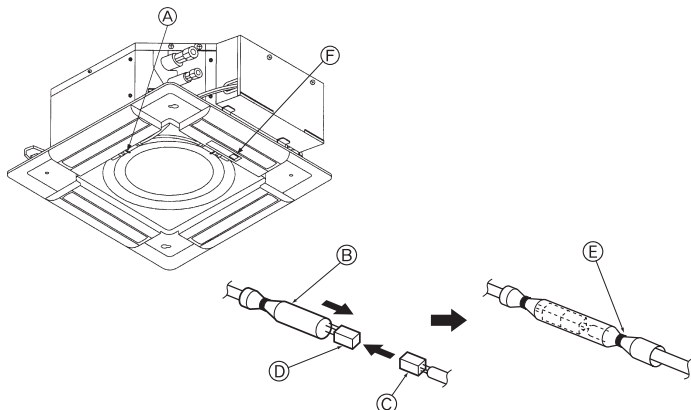

Fig. 5-8
5.3.4. Wire connection (Fig. 5-8)